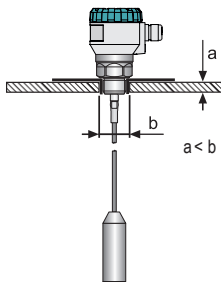

Fig. 9: Level meter installation on the roof of the concrete silo
- When installing the level meter into the roof of a concrete silo, the level meter installation hole **b** must be larger than the thickness of the concrete **a**, see fig. 9.